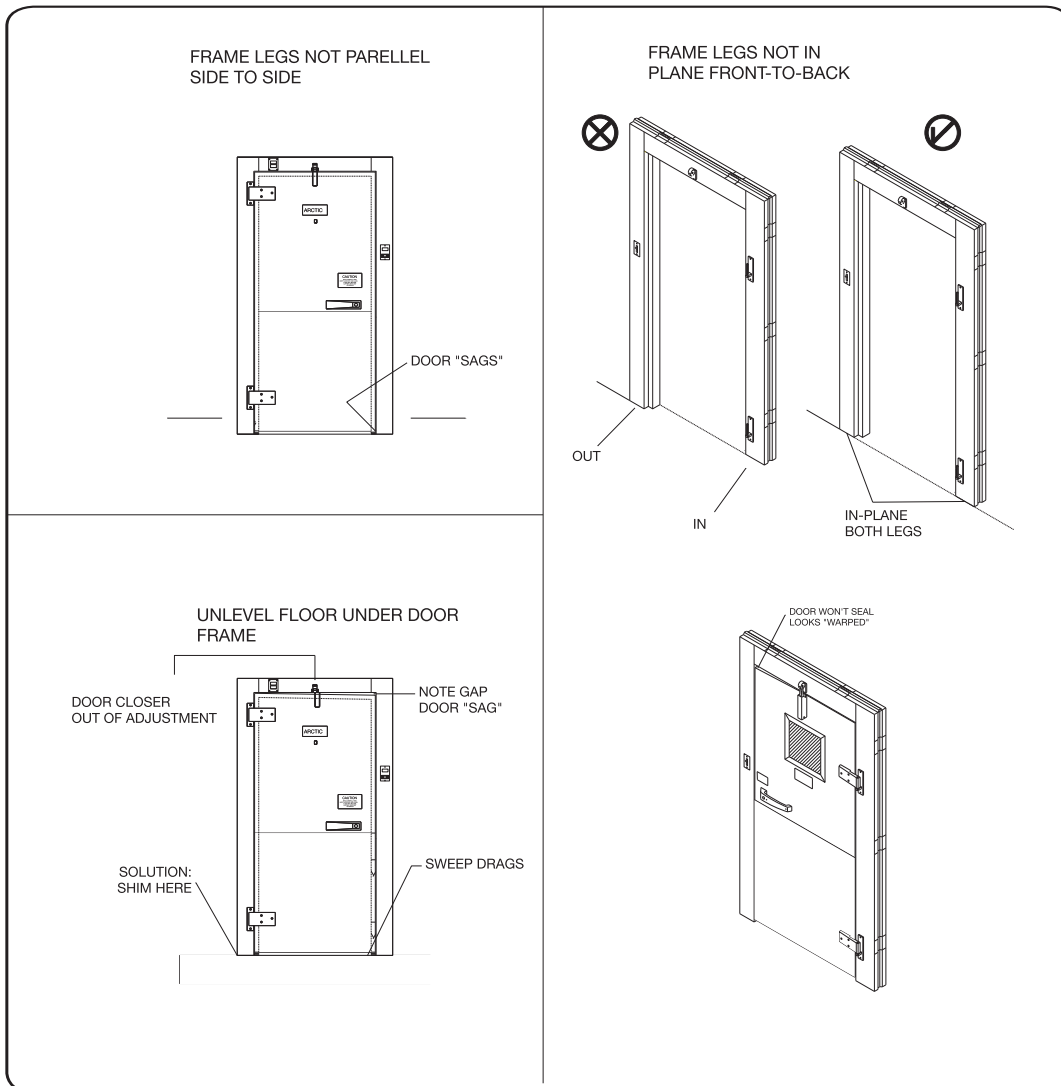

FIG 5. INSTALLATION DOOR PROBLEMS
**NOTE:** Door and frames have been checked for proper fit and operation at the factory. An unlevelled floor may cause doors to not hang or close properly. This can occur initially at the time of installation or at a later date due to heavy traffic. It may be necessary to shim under walk-in floor or door frames at one side or the other to adjust a misaligned frame. Loosening and relocking frame cam locks may also permit some adjustment. Make sure frame legs are parallel to each other and to adjacent wall panels. The door may not seal properly if the frame is twisted or out of plumb. See Fig. 5.